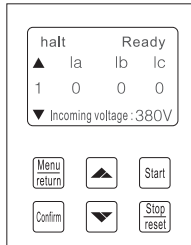

Figure 5-1
The control panel consists of a four-row dot matrix LCD screen and six keys, as shown in Figure 5-1.
- Shutdown interface After the system is powered on, if there is no fault, it will enter the shutdown interface. Entering this interface indicates that the motor is in shutdown state and the system is ready to start. As shown in Figure 5-1.